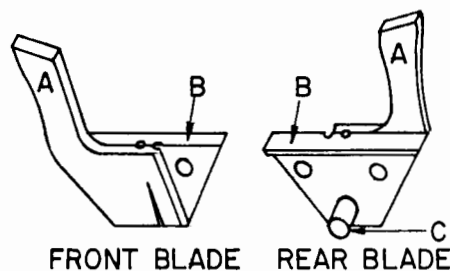

Fig. 319. Cutting blades.
9. Remove the two bolts in back of the cutters A (Fig. 319).